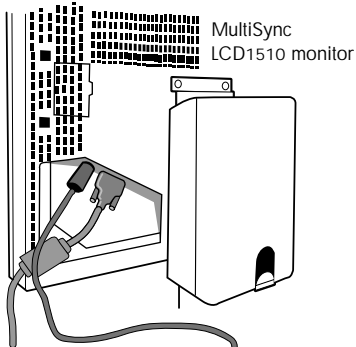

Figure C.1
4. **For the MultiSync LCD1510, MultiSync LCD1510V:** Connect the 15-pin mini D-SUB of the video signal cable and the AC Adapter cable to the appropriate connectors on the back of the monitor (Figure C.1).